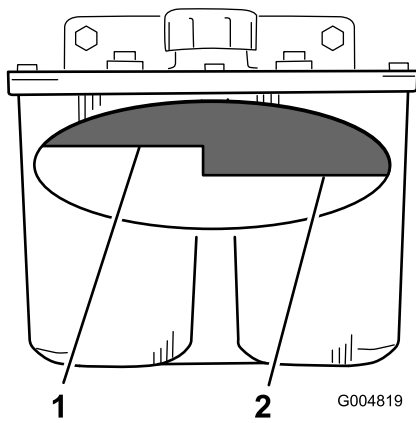

Figure 71
- Clean the area around filler neck of hydraulic tank (Figure 71).
- Remove the cap from the filler neck. Look inside to check if there is fluid in the reservoir (Figure 71).
- Note:** The fluid level should be to the top of the hot level of the baffle, when the fluid is hot (Figure 71).